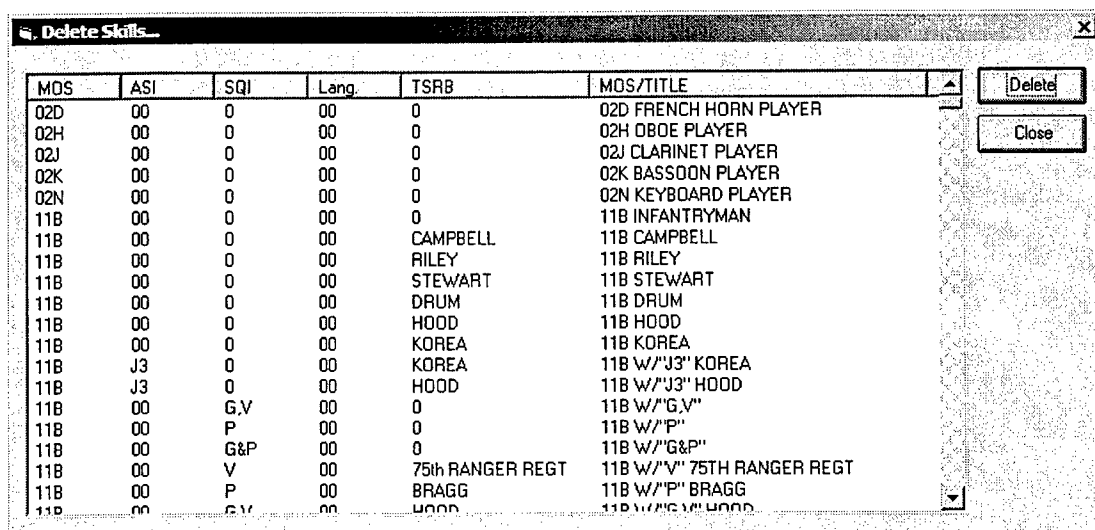

Figure 28. Delete a Skill
1. If you have added a skill mistakenly but have not yet used it in an official plan (i.e., it does not yet exist in the SRB History table), you may delete the skill by choosing the *Delete Skills* option from the *Utilities* menu. Select a skill from the list shown in Figure 28 by clicking on the skill's MOS. Click the *Delete* button to remove the skill.